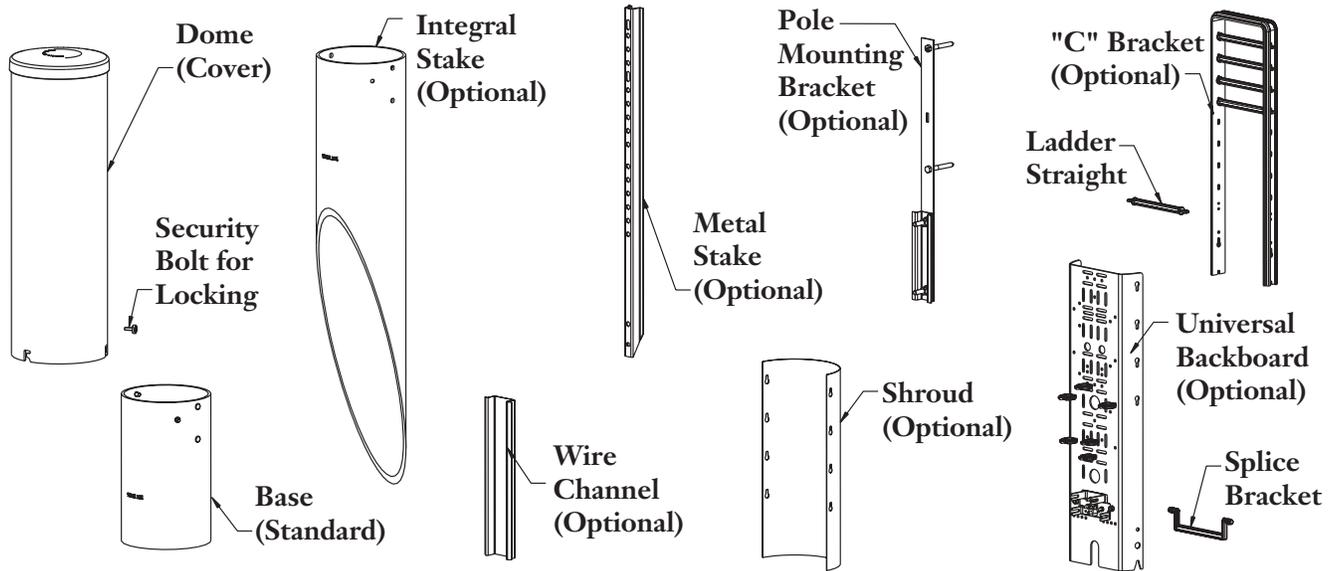

Figure 1
The components you receive may vary from those depicted in Figure 1 depending upon the configuration ordered for your specific application. Refer to your network plan or the product specification sheet to ensure you have the required components for your installation. Additional parts and accessories may be ordered by contacting your customer service representative.
- Step 3** Loosen security bolt, twist the dome to release it from the slotted capture feature, and lift the dome straight up. Remove the “C” bracket or universal backboard, if installed. Refer to Figure 1.